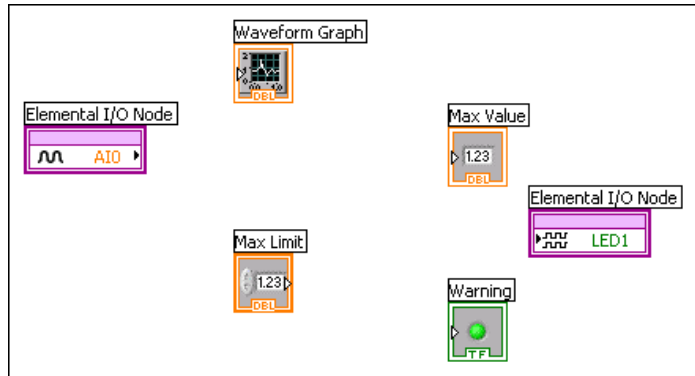

Figure 15. Adding the Elemental I/O Nodes to the Block Diagram
- Place a DSP LED node located on the **Programming»Elemental I/O** palette on the block diagram as shown in Figure 15.